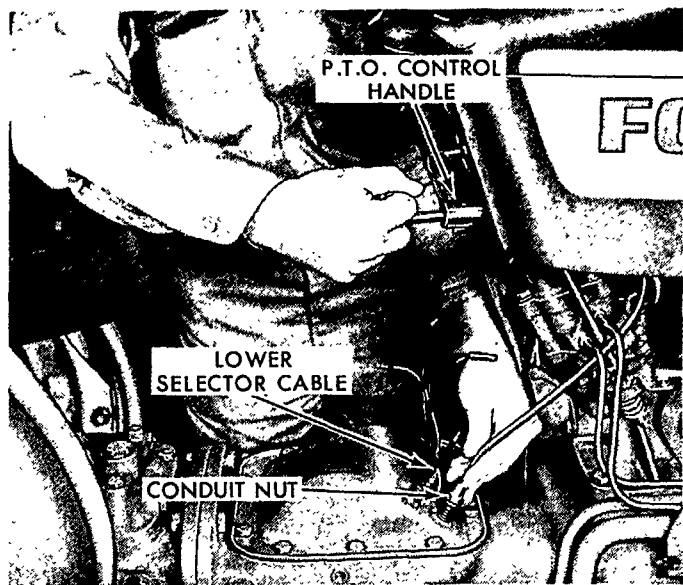

Figure 33
cover. Pull the control handle all the way out and completely loosen the conduit nut, Figure 33, at the transmission cover.
1. Install the P.T.O. control assembly in the tractor sheet metal, placing the spacer, washer, and jam nut loosely on the assembly behind the sheet metal. Carefully push the cable through the conduit and loosely install the conduit upper nut. Refer to Figure 33.